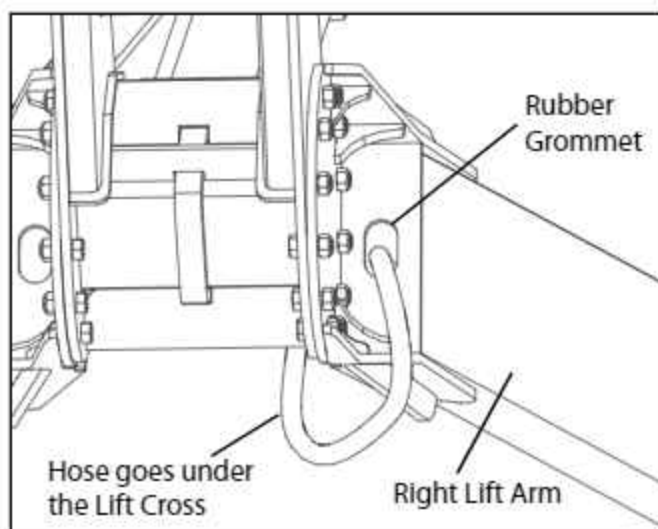

FIG. 3-27. Hydra. Hose Into the Lift Arm
4. Insert a Rubber Grommet into the oval holes in both ends of the right Lift Arm, as shown in Fig. 3-27 and 3-28.
6. Route the hydraulic hose as shown in Fig. 3-27, 3-28 and 3-30. Slide the hose through the oval hole in the Lift Arm. See Fig. 3-27. Push the hose down the inside of the lift arm